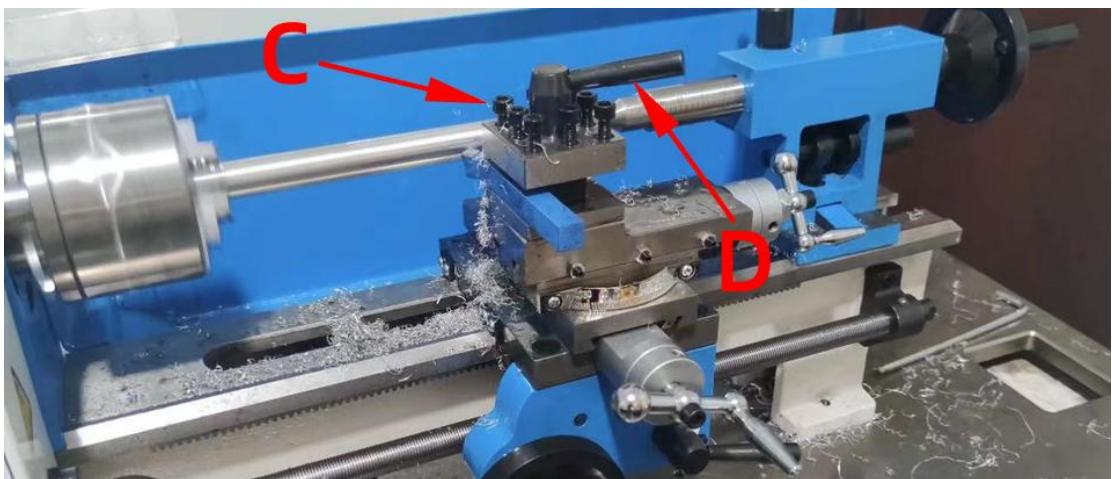

Fig.5 Tool rest adjustment
When you are going to adjust the tool post position, you only need to loosen the lever shown in(D)of Fig.5. After you have finished be sure to tighten. if you are going to replace the work cutter then you need to loosen the screws of (C) with the allen wrench provided.